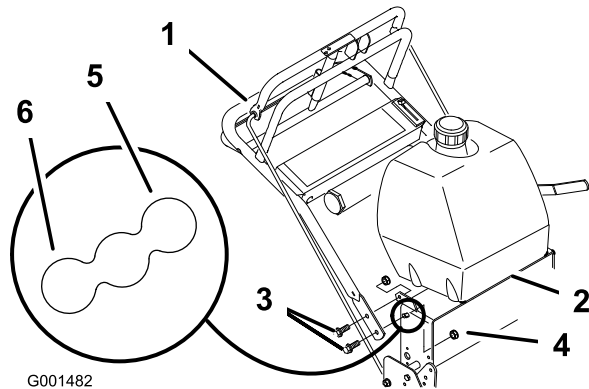

Figure 20
2. Loosen the upper flange bolts (3/8 x 1 inch) and flange nut securing handle to rear frame (Figure 20).
3. Remove the lower flange bolts (3/8 x 1 inch) and flange nuts securing handle to rear frame (Figure 20).